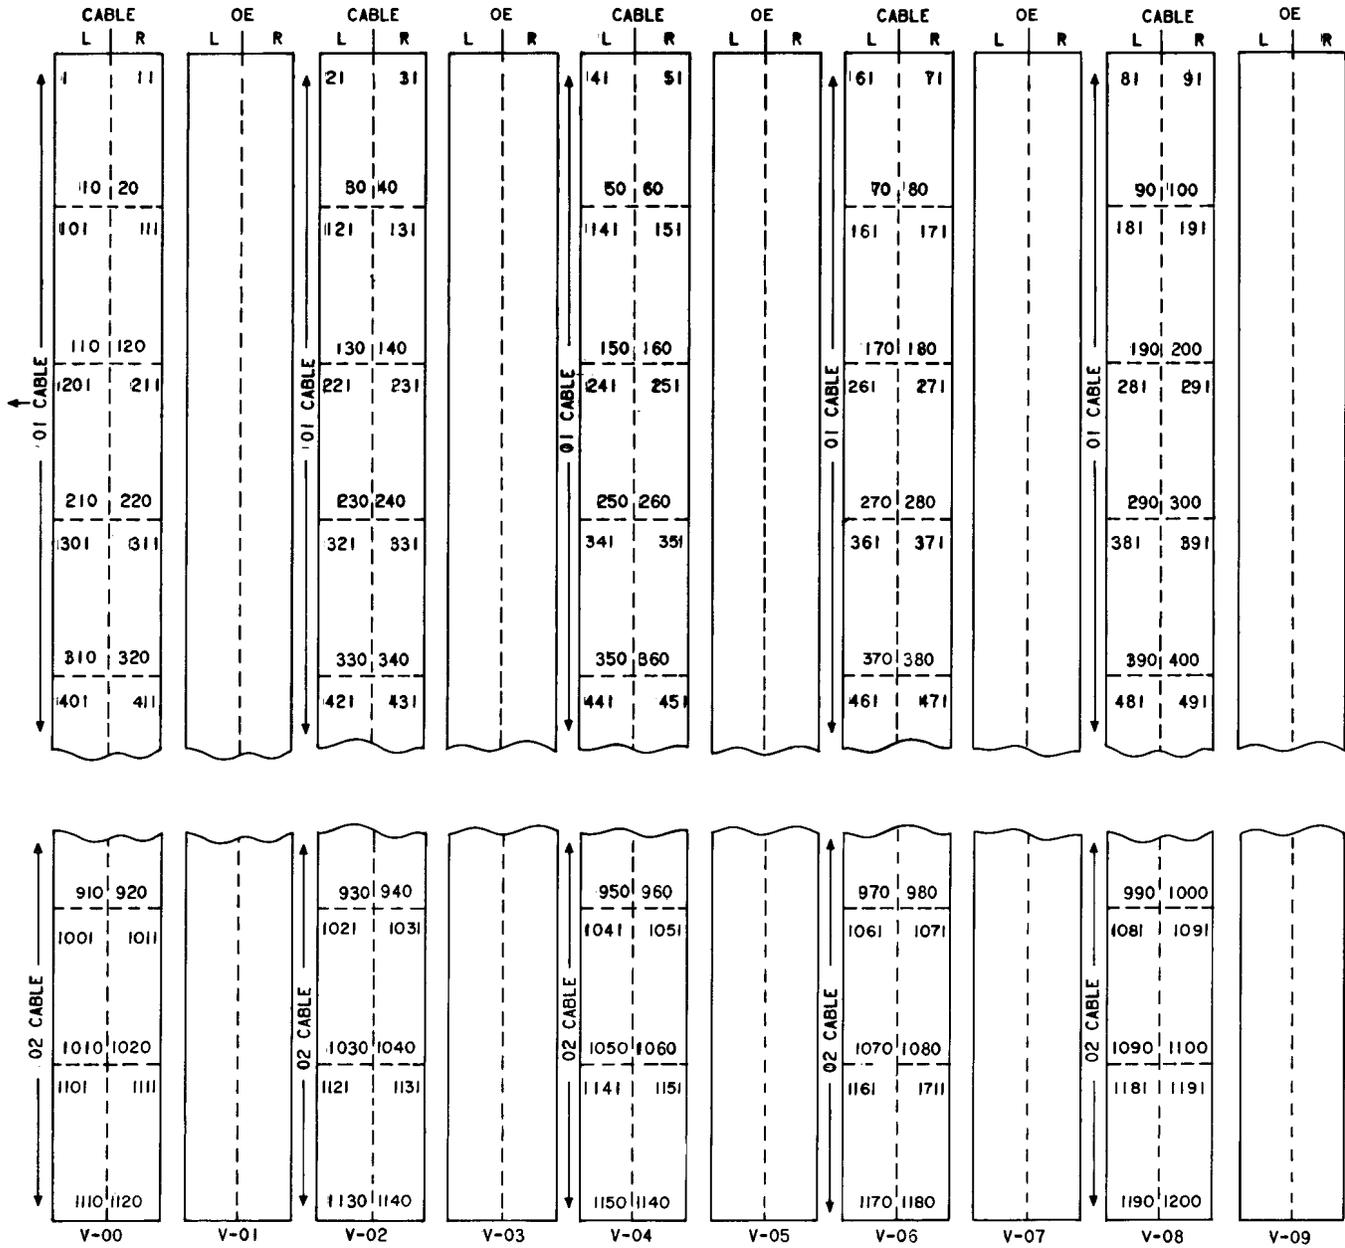

Fig. 2—Partially Equipped Combined Distributing Frame Module Showing Cable and Terminal Equipment Terminations
2.05 A module consists of ten verticals (Fig. 2).
(c) Vertical 00 left of module 00 has no line equipment for a short cross-connect away. Therefore, spread the assignment equally over OE in verticals 01L to 09R. This is done in the following manner for Fig. 2: